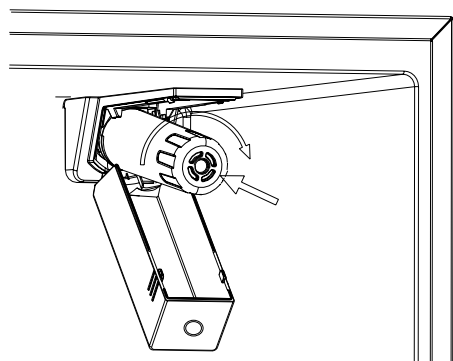

Figure 2
2. After removing the packaging of the provided filter, push it into the filter housing and rotate clockwise until it no longer rotates and is secure (Figure 2).